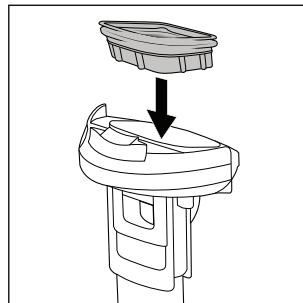

Fig. 28
- ◆ Once the parts are fully dry, replace the dirt filter ⑩ back in the lid of the waste water tank ⑨ (see fig. 28).